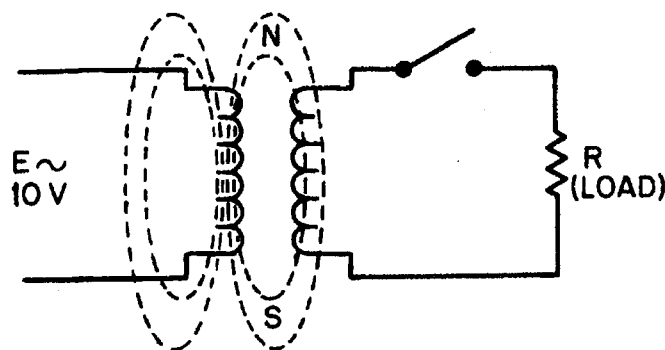

Figure 5-8.—Transformer under no-load conditions.
A no-load condition is said to exist when a voltage is applied to the primary, but no load is connected to the secondary, as illustrated by figure 5-8. Because of the open switch, there is no current flowing in the secondary winding. With the switch open and an ac voltage applied to the primary, there is, however, a very small amount of current called **EXCITING CURRENT** flowing in the primary. Essentially, what the exciting current does is "excite" the coil of the primary to create a magnetic field. The amount of exciting current is determined by three factors: (1) the amount of voltage applied ( $E_a$ ), (2) the resistance ( $R$ ) of the primary coil's wire and core losses, and (3) the  $X_L$  which is dependent on the frequency of the exciting current. These last two factors are controlled by transformer design.
To visualize how a voltage is induced into the secondary winding of a transformer, again refer to figure 5-8. As the exciting current flows through the primary, magnetic lines of force are generated. During the time current is increasing in the primary, magnetic lines of force expand outward from the primary and cut the secondary. As you remember, a voltage is induced into a coil when magnetic lines cut across it. Therefore, the voltage across the primary causes a voltage to be induced across the secondary.